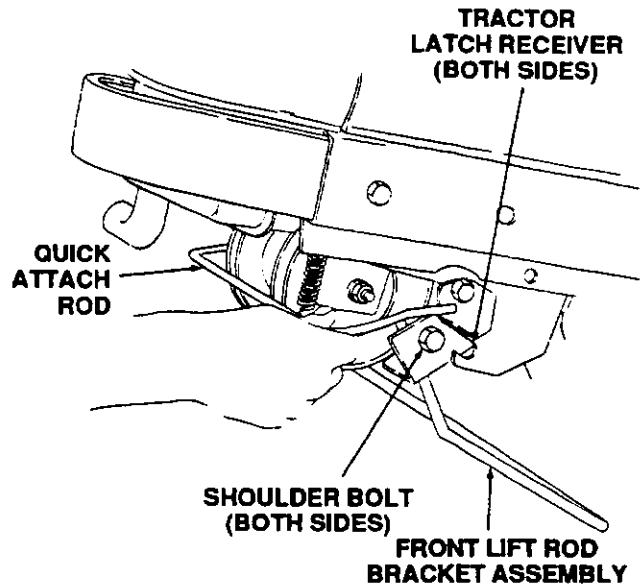

Figure 12
7. Refer to Figure 12 to determine proper positioning of the front lift rod bracket assembly. Push downward and hold the tractor quick attach rod. Slide